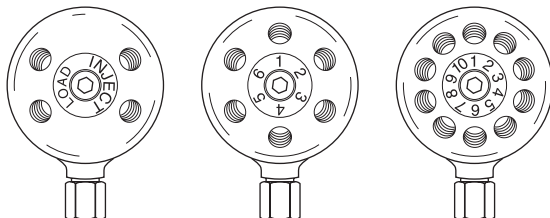

Figure 3:
7. The cap can go on two ways. Install it over the alignment pins with port number 1 opposite the air inlet. **(Figure 3)**